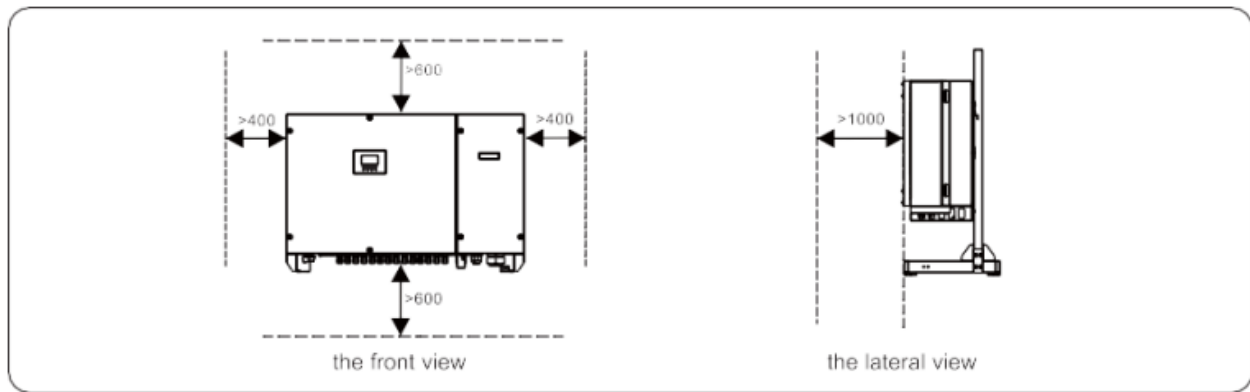

Figure 4.4 Installation Space Requirements (unit: mm)
- Reserve enough clearance around the inverter to ensure sufficient space for installation and heat dissipation, as shown in Figure 4.4.